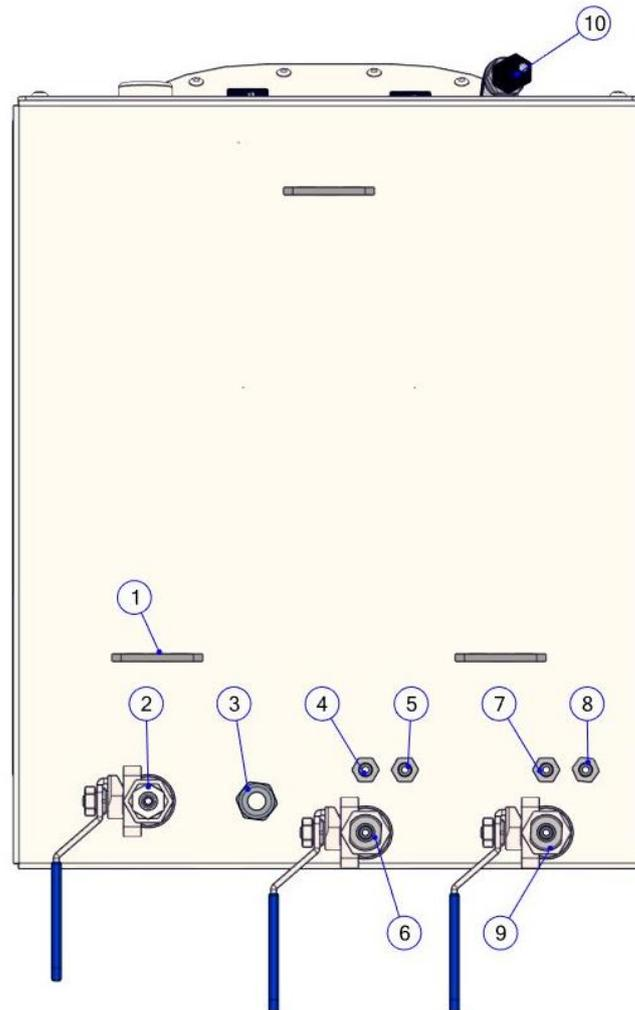

Figure 6
2. First open the cooling water valve (Figure 6 no. 9).
4. After several seconds turn the liquid valve (substance) (Figure 6 no. 6) open. The pressure gauge on the machine must show 0.3 to 0.5 bar depending on the quantity of liquid in the tanks. Only then does the machine fog at maximum power. If the pressure stays below 0.3 bar, the machine again runs with a high humming tone (too little power) or the connection to the fogging liquid tank or other places in the pressure line are not well sealed (pressure loss). When both fogging valves have been opened and the machine starts to fog, both adjustable screws must be equally further opened until the deep humming tone has stabilised.
1. Manually close the liquid valve (substance) (Figure 6 no. 6) .
2. After 20-30 seconds manually close the BIO fogging valve (water) (Figure 6 no. 9).